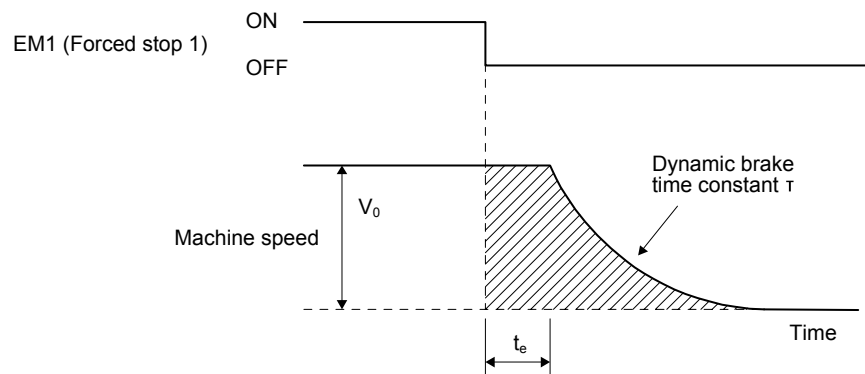

Fig. 10.3 Dynamic brake operation diagram
Fig. 10.3 shows the pattern in which the servo motor comes to a stop when the dynamic brake is operated. Use equation 10.2 to calculate an approximate coasting distance to a stop. The dynamic brake time constant τ varies with the servo motor and machine operation speeds. (Refer to (2)(a), (b) of this section.)